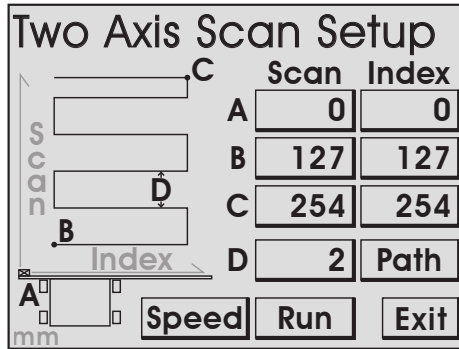

Fig. 56 - Two axis scan setup
**Path Button:** A toggle between a horizontal (Fig. 56) or vertical (Fig. 58) scan path.